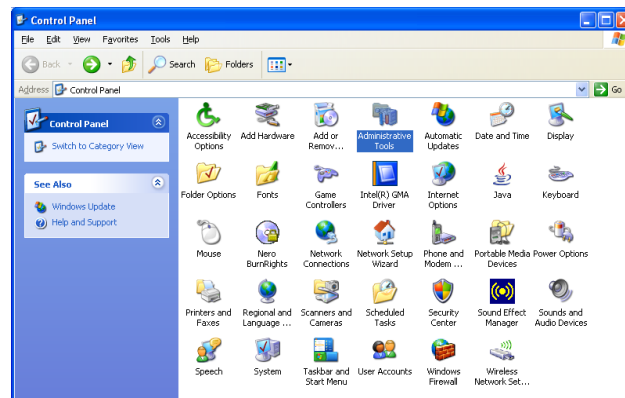

Figure B-9: Control Panel Displayed in Classic View
3. Look at the left side of the *Control Panel* screen to ensure the system is in Classic View (Figure B-9) and not Category View.